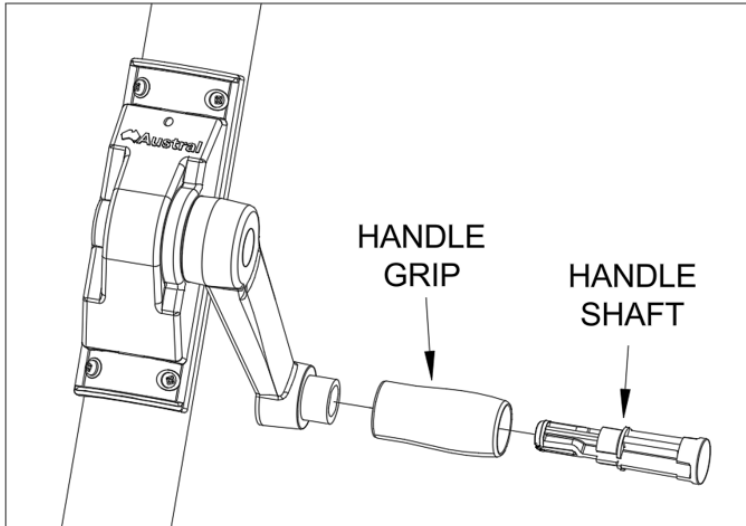

Fig 2. Fitting the handle.
1. Fit the handle grip. You may find it easier to use a block of timber behind the handle. Give the end of the handle shaft a short swift tap with a hammer to lock the handle assembly into place. (Fig 2).